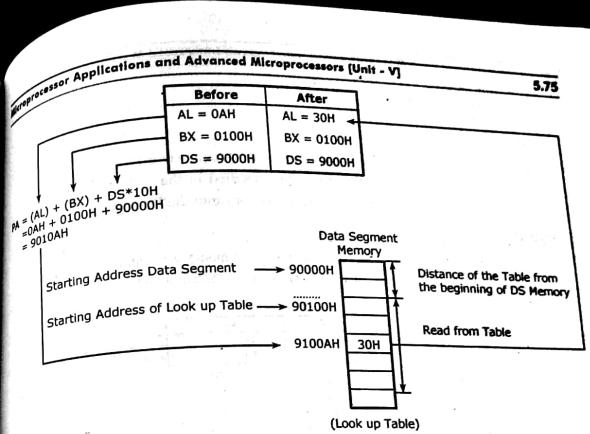

Fig. 5.5.3 Illustration of XLAT Instruction
**EXAMPLE** : The contents of the registers and memory before and after executing the XLAT instruction is shown in Fig. 5.5.3.